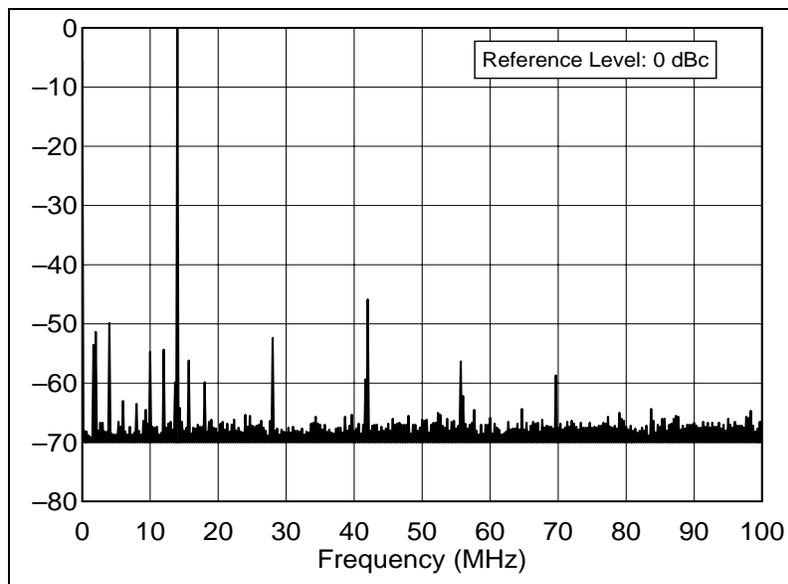

Fig. 4-4A — Example Spectral Purity Plot
4.4.3.13 Determine if the DUT transmitter meets FCC specifications for HF spectral purity and record on data sheet. See Fig. 4-4A.